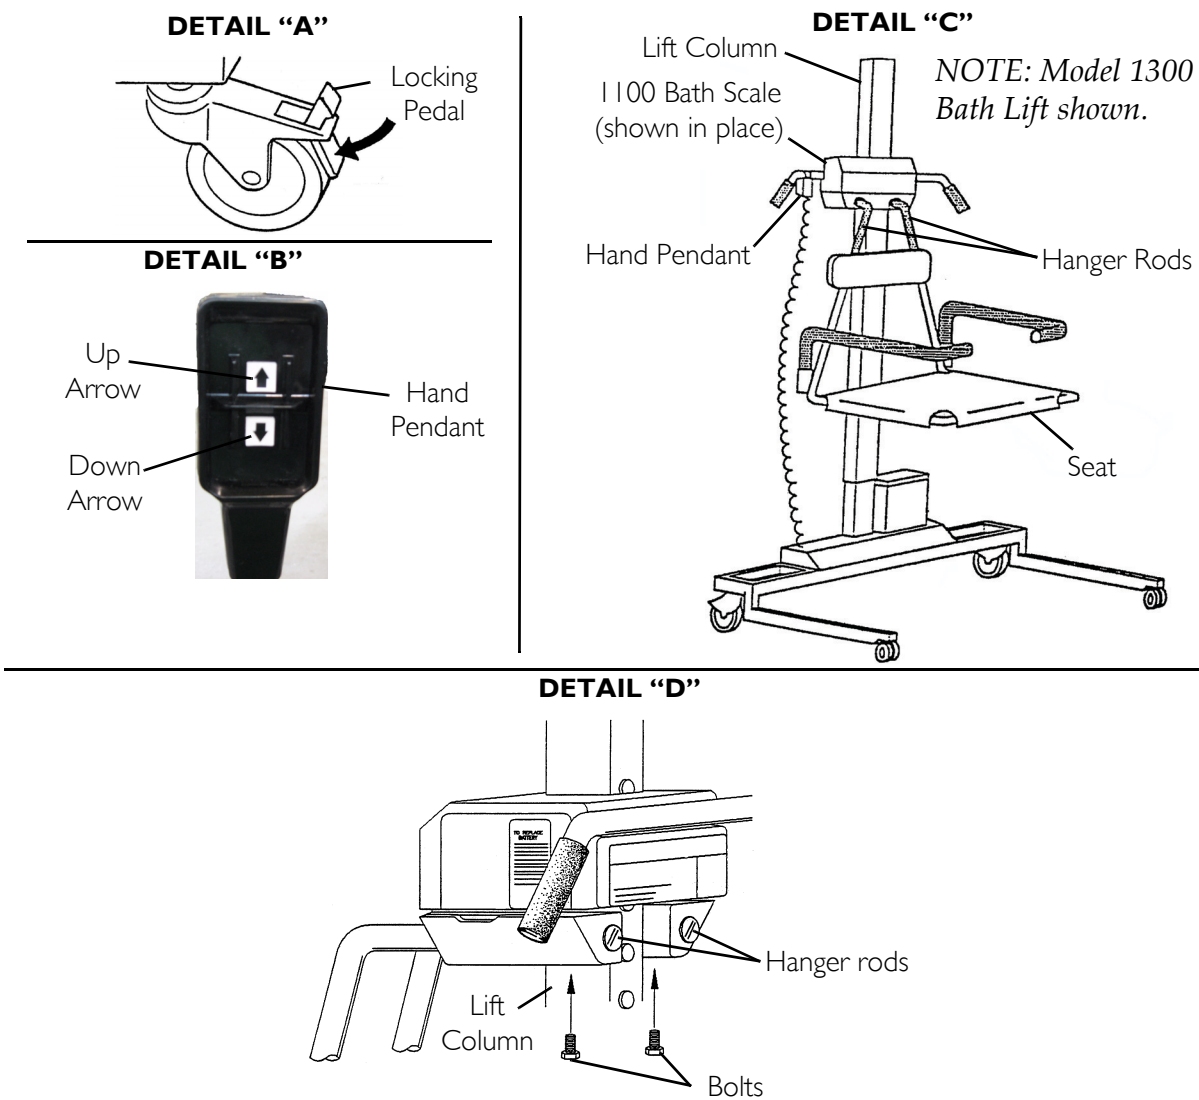
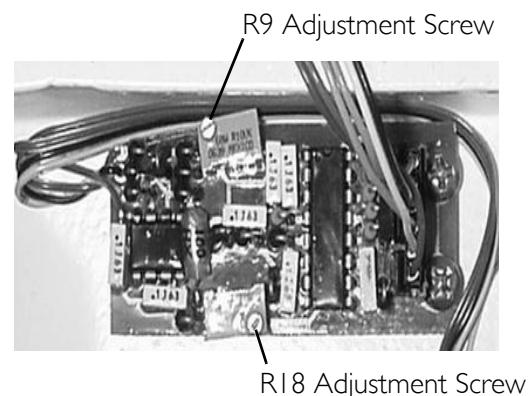

FIGURE 3.1 Removing/Installing the Bath Scale
FIGURE 3.4 Calibrating the 1100 Bath Scale
NOTE: For this procedure, refer to FIGURE 3.1 on page 20.
NOTE: For this procedure, refer to FIGURE 3.1 on page 20 and FIGURE 3.4.
5. Adjust R9 so the display indicates +15 pound offset. Refer to Detail "A" of FIGURE 3.4.
9. Adjust R18 until the weight on the display is accurate of the combined weight of the calibrated weight and the weight of the seat or stretcher. Refer to Detail "A" of FIGURE 3.4.